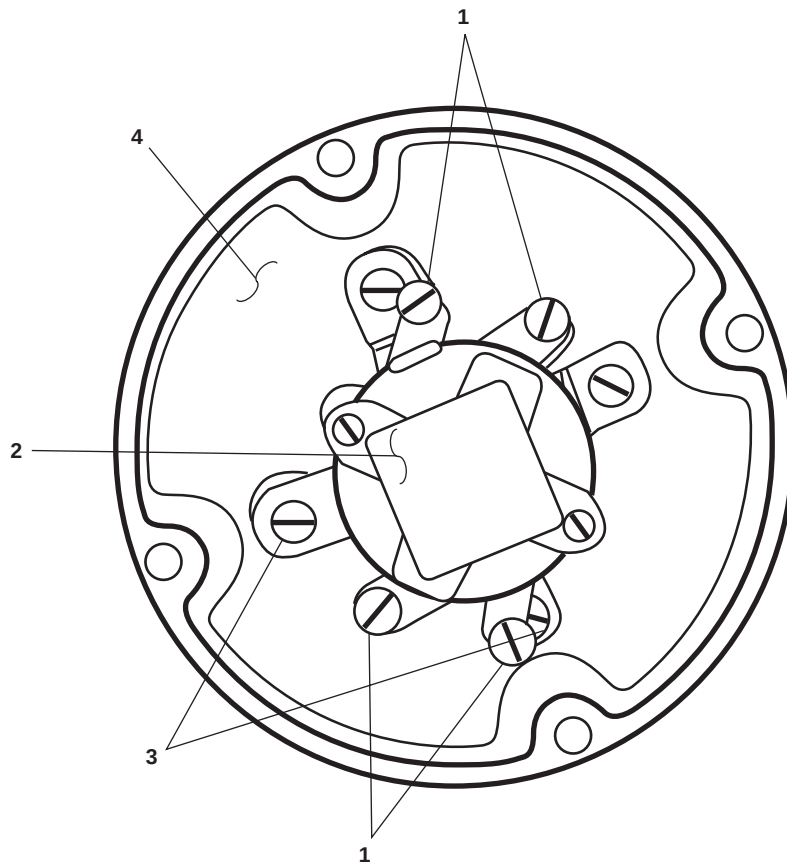

Figure 3. Contactor Switch, Rear View
3. Use a multimeter to check for voltage at the terminals (figure 3, item 1) on the contactor switch (figure 3, item 2). If voltage is present, ensure that the proper circuit breaker is set to OFF, locked out, and tagged out (FM 55-502). If no voltage is present, continue with the procedure.
4. Label and remove the wiring from the terminals (figure 3, item 1) on the contactor switch (figure 3, item 2).
7. Remove the four screws (figure 3, item 3) that secure the contactor switch (figure 3, item 2). Remove the contactor switch from the contactor switch cover (figure 3, item 4).
1. Install the new contactor switch (figure 3, item 2) on the contactor switch cover (figure 3, item 4), securing it with the four screws (figure 3, item 3).